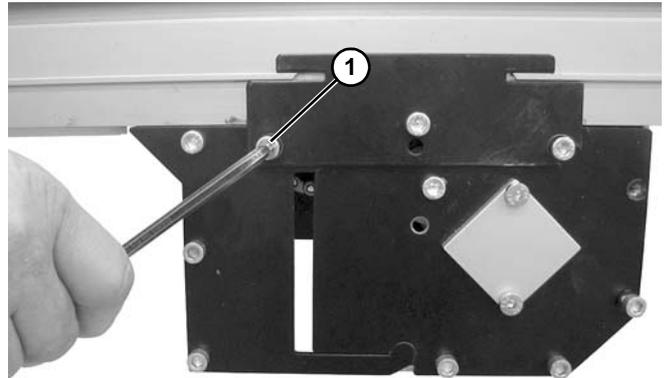

**Figure 45**
6. Remove headplate (**Figure 45, item 1**) and spindle (**Figure 45, item 2**).